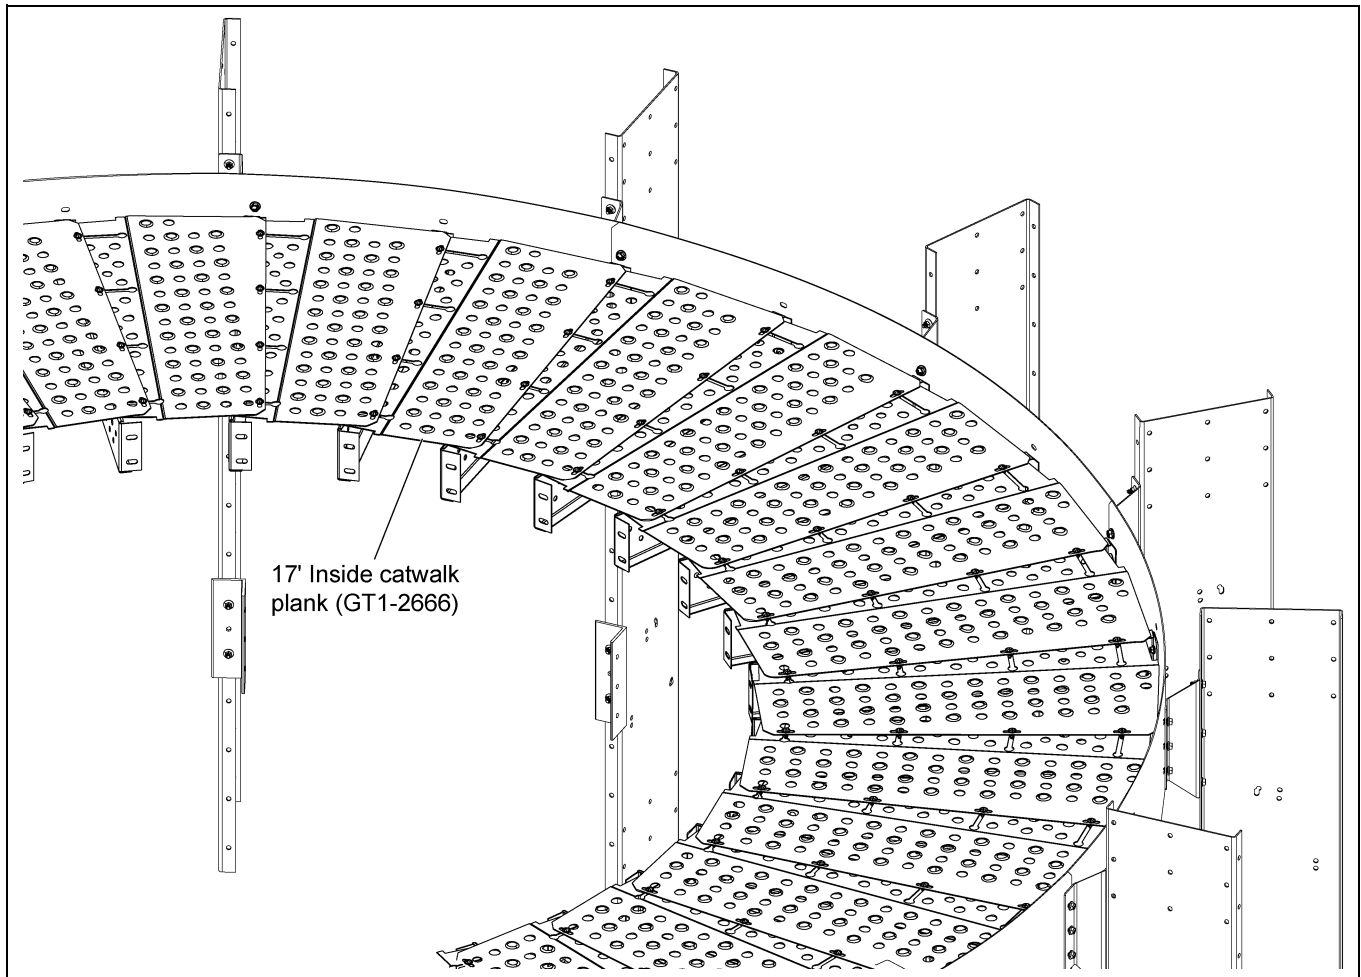

Figure 5G
3. Install all the planks (GT1-2666) continuously around the dryer. (See Figure 5G.)